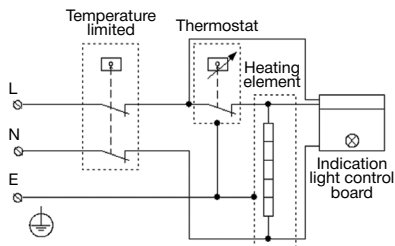

Fig. 12
- for RS1 series water heaters: unscrew retaining nut of the thermal switch, fastened on the flange of the heating element, turn over the thermal switch and press the button, located in the center of the thermal switch, until it clicks, Fig. 12;